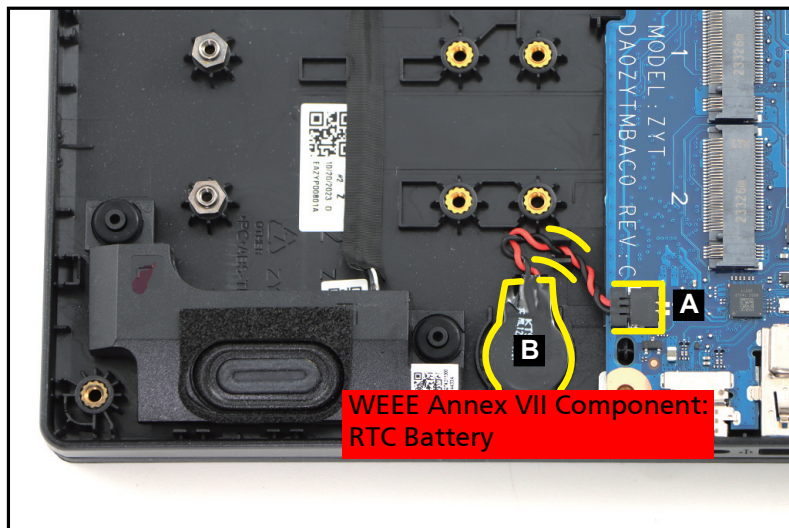

Figure 1-31. RTC Battery Removal
1. Disconnect the RTC battery cable from the mainboard connector (A). Then release the cable from the cable guides as shown in Figure 1-31.
2. Using plastic tweezers, carefully pry to detach the adhesive tape underneath the RTC battery (B) (Figure 1-31). Then remove the RTC battery.